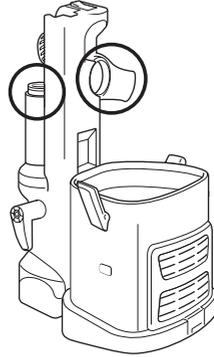

Fig. 31
- Remove the dust cup and extension wand and separate the portable *Lift-Away* canister from the motorized floor brush. Look in all 4 openings for any blockages. **(Fig. 31)**